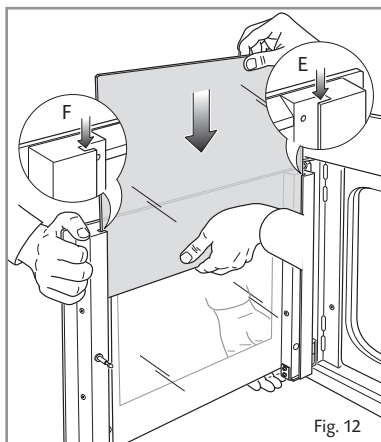
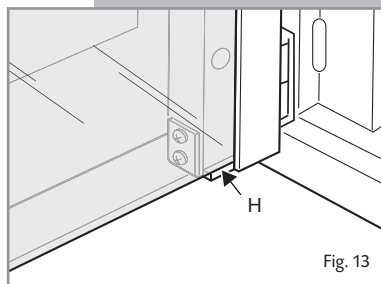

Fig. 12
Fig. 13
- Whilst one person holds the door still, a second person should insert the inner pane in the left **E** and right **F** side guides (fig. 12) and gently let it slide up to the retainers **H** (fig. 13).